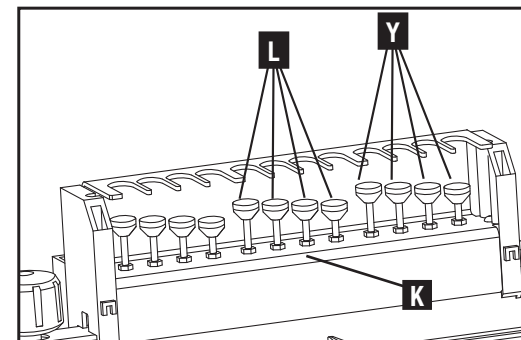

Fig. H9
- * If using the standard half blind/sliding tapered template on the 16" OMNIJIG®, set the depth using the sliding tapered dovetail bit depth gauges at (L) Fig. H9. Pick which gauge (L) to use based on the corresponding router bit and template guide combination listed on the label at (K).
- * If using the half blind/sliding tapered dovetail template on the 24" OMNIJIG®, then use depth gauges at (Y). These are the user defined gauges and need to be set according to the instructions found in the appendix. Raise the router bit before setting router on bit depth gauge. Slowly lower the router bit onto the gauge. Depth of cut is set when bit barely touches the gauge.